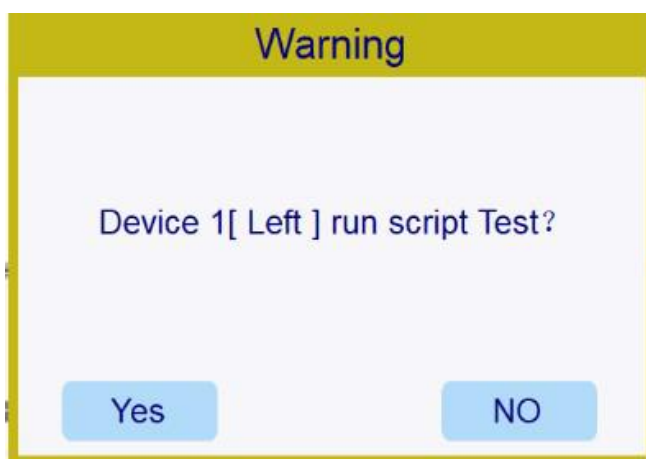

Figure 6-6 Run Confirmation
- The system software will pop up a interface as shown in figure 6-6 based on the read information to remind the user to confirm the program that needs to be run, such as "Is device 1 sure to execute the program Test?";
If the user needs to implement the whole process of automation, after scanning, the window will prompt that "Device 1 run script? XXXX?". XXXX stands for the program name, as shown in figure 6-6 (The sample drawing is only an example while the specific program name refers to the actual running program.). Click "Yes" to start the whole process of automation and "No" to stop the operation.